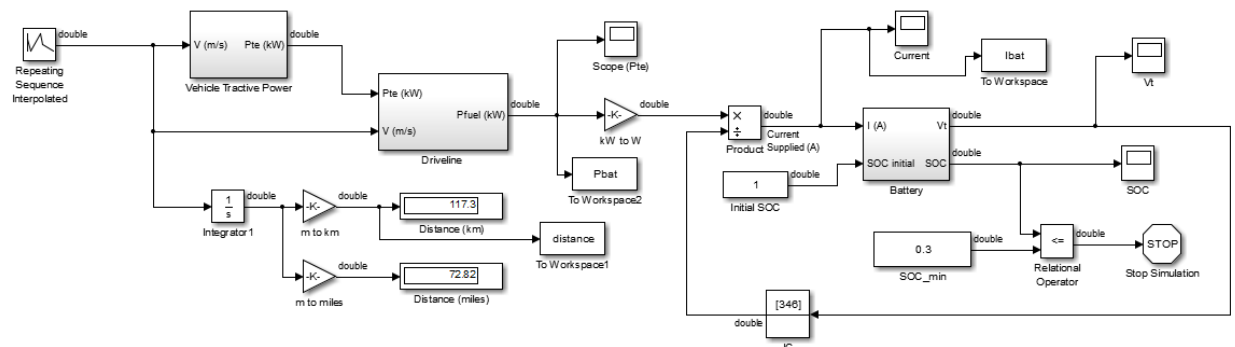

Figure 2 A Simulink model for predicting EV range.
**Part 2:** Modify your Fuel Energy Model from Project 7 to use the modified battery model. Your result will be like Figure 2.